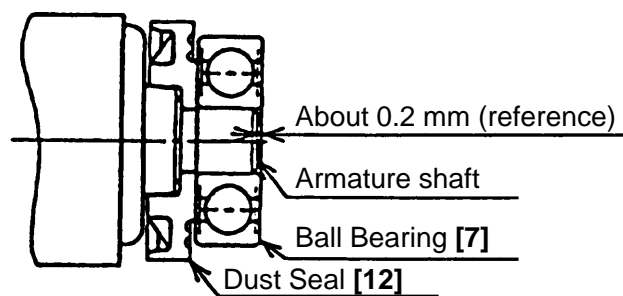

Fig. 5
- ① Ensure that the terminals of the stator and the snap switch are not bent or otherwise damaged.
- ② Generously lubricate the teeth of Gear [14] and Pinion [5] with grease. Rub grease onto the teeth with your fingers so that the grease reaches each tooth bottom. Note that the Gear [14] and the Pinion [5] may wear faster than normal if under-lubricated.
- ③ Be sure to soak the inner diameter of the Felt Packing [18] with machine oil. Otherwise, its dust-sealing function will fail to work properly, resulting in earlier damage of the Ball Bearing [17].
- ④ When replacing the Armature [9] and the Ball Bearing [7] on the commutator side, press inward on the Dust Seal [12] while taking care of its direction until the end face of the Dust Seal [12] contacts against the end surface of the Armature [9] and make sure that Dust Seal [12] cannot be turned freely by hand. Keep the end face of the armature shaft approximately 0.2 mm (reference) distance inward of the end face of the Ball Bearing [7]. (See Fig. 5)